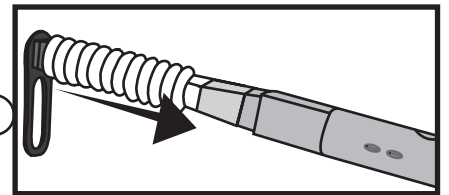

Figure 12; Attach Vertical Blind Mount
Install the VERTICAL BLIND MOUNT (C) on the SMART WAND™ by sliding the clear plastic bellows over the ATTACHMENT HOOK (a) until it fits snugly on the SMART WAND™ frame [Fig. 12].